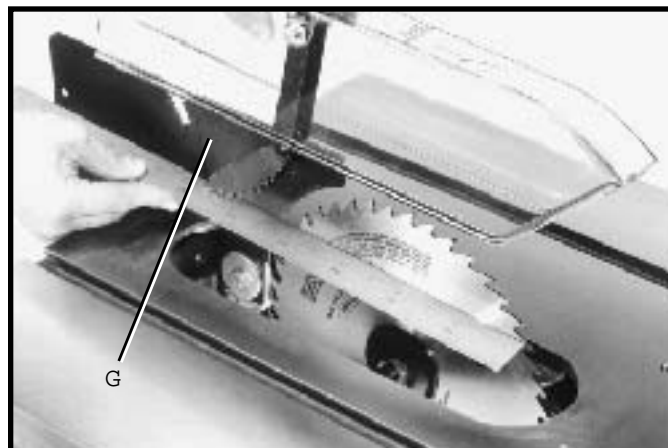
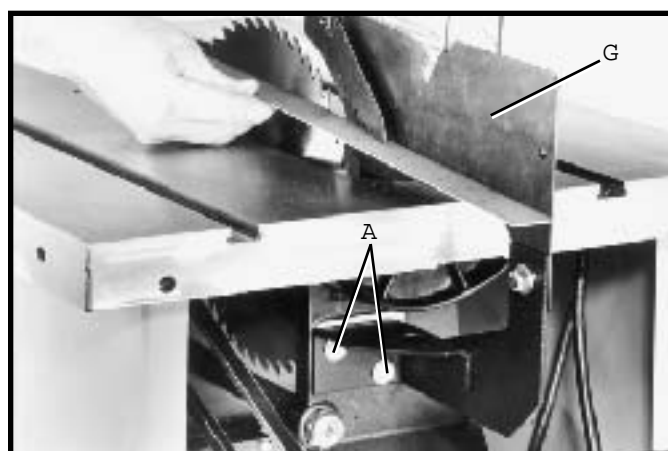

Fig. 33
Fig. 34
10. Using a straight edge, check to see if the saw blade is aligned with the rear of the splitter (G), as shown in Figs. 33 and 34. If alignment is necessary, loosen the screws (A) Fig. 34, align splitter (G) with the saw blade, and tighten two screws (A).